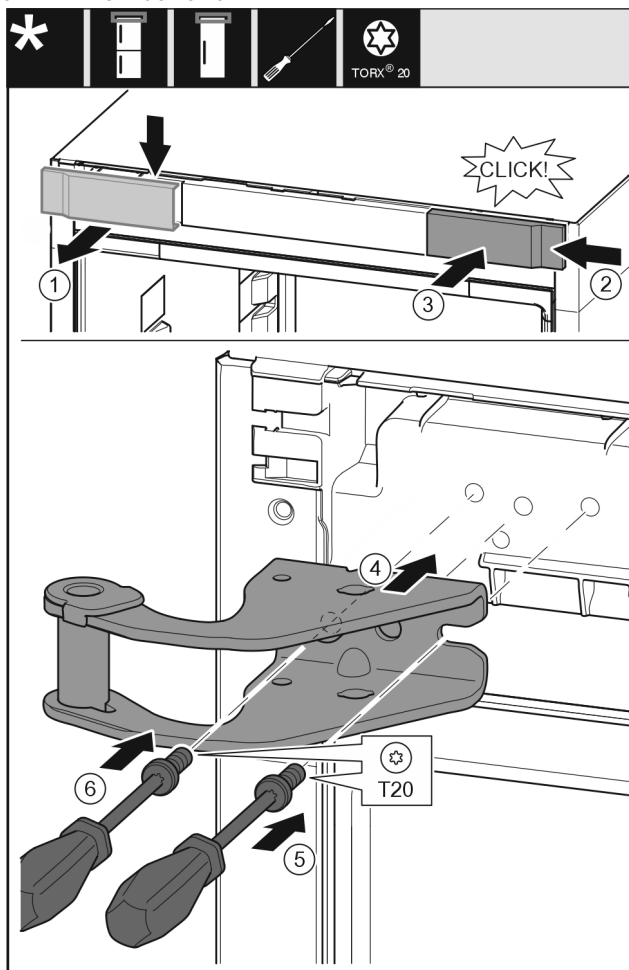

Fig. 31
- ▶ Take off the cover from above to the front. Fig. 31 (1)
- ▶ Rotate the cover 180° and clip onto the other side from the right. Fig. 31 (2)
- ▶ Latch the cover into place. Fig. 31 (3)
- ▶ Position the upper bearing bracket. Fig. 31 (4)
- ▶ Insert the screw with a T20 screwdriver and tighten it. Fig. 31 (5)
- ▶ Insert the screw with a T20 screwdriver and tighten it. Fig. 31 (6)